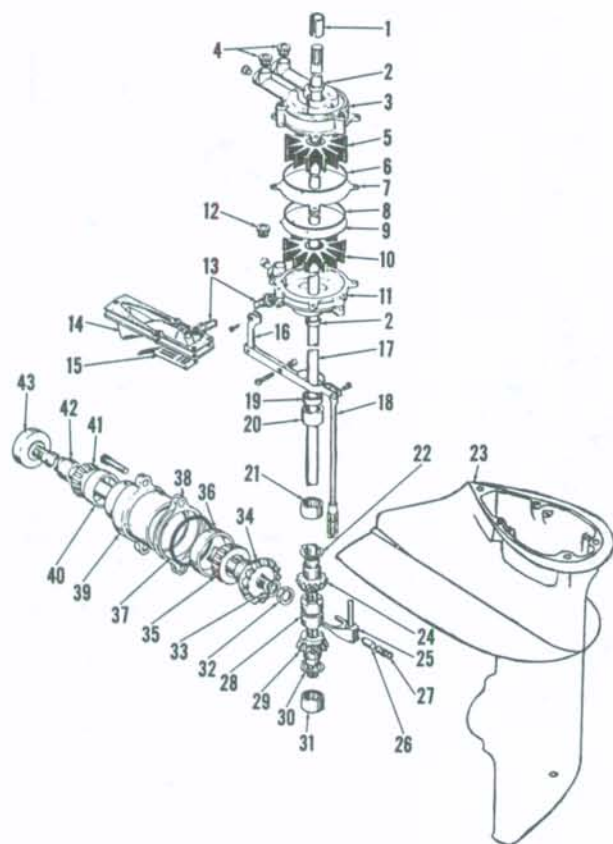

Fig. Mc5-19 — Exploded view of lower unit gearcase and associated parts used on OX 140.
**OX 140:** The 140 OX is a work motor especially designed to propel heavy craft. The motor uses the McCulloch 14 power head, a special heavy duty lower unit with 16:41 gear ratio and a high-thrust 13 x 7 inch, three blade propeller. Refer to Figs. Mc5-19 and Mc5-20 for exploded views.
To remove the gearcase housing from lower motor casing, first remove the drain plugs and allow gear housing to drain. Remove water inlet housing (14—Fig. Mc5-19) from lower side of anti-cavitation plate, remove the concealed rear screw securing gearcase to motor casing and disconnect shift rocker (16) from upper shift rod by removing the screw. Remove the remaining cap screws and withdraw gearcase (23) and associated parts from lower motor casing.